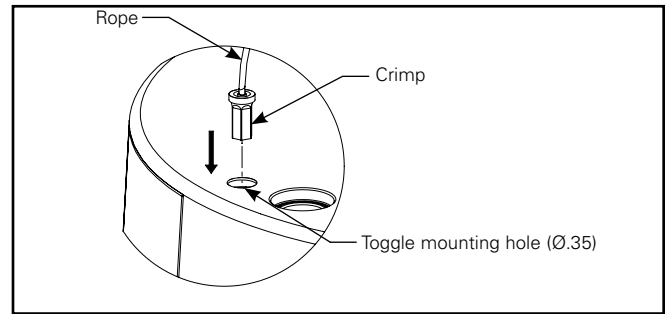

Figure 3.1.
- A. Insert wire rope with crimp nut into the hole (.35") of the hub top cover (Figure 3.1).